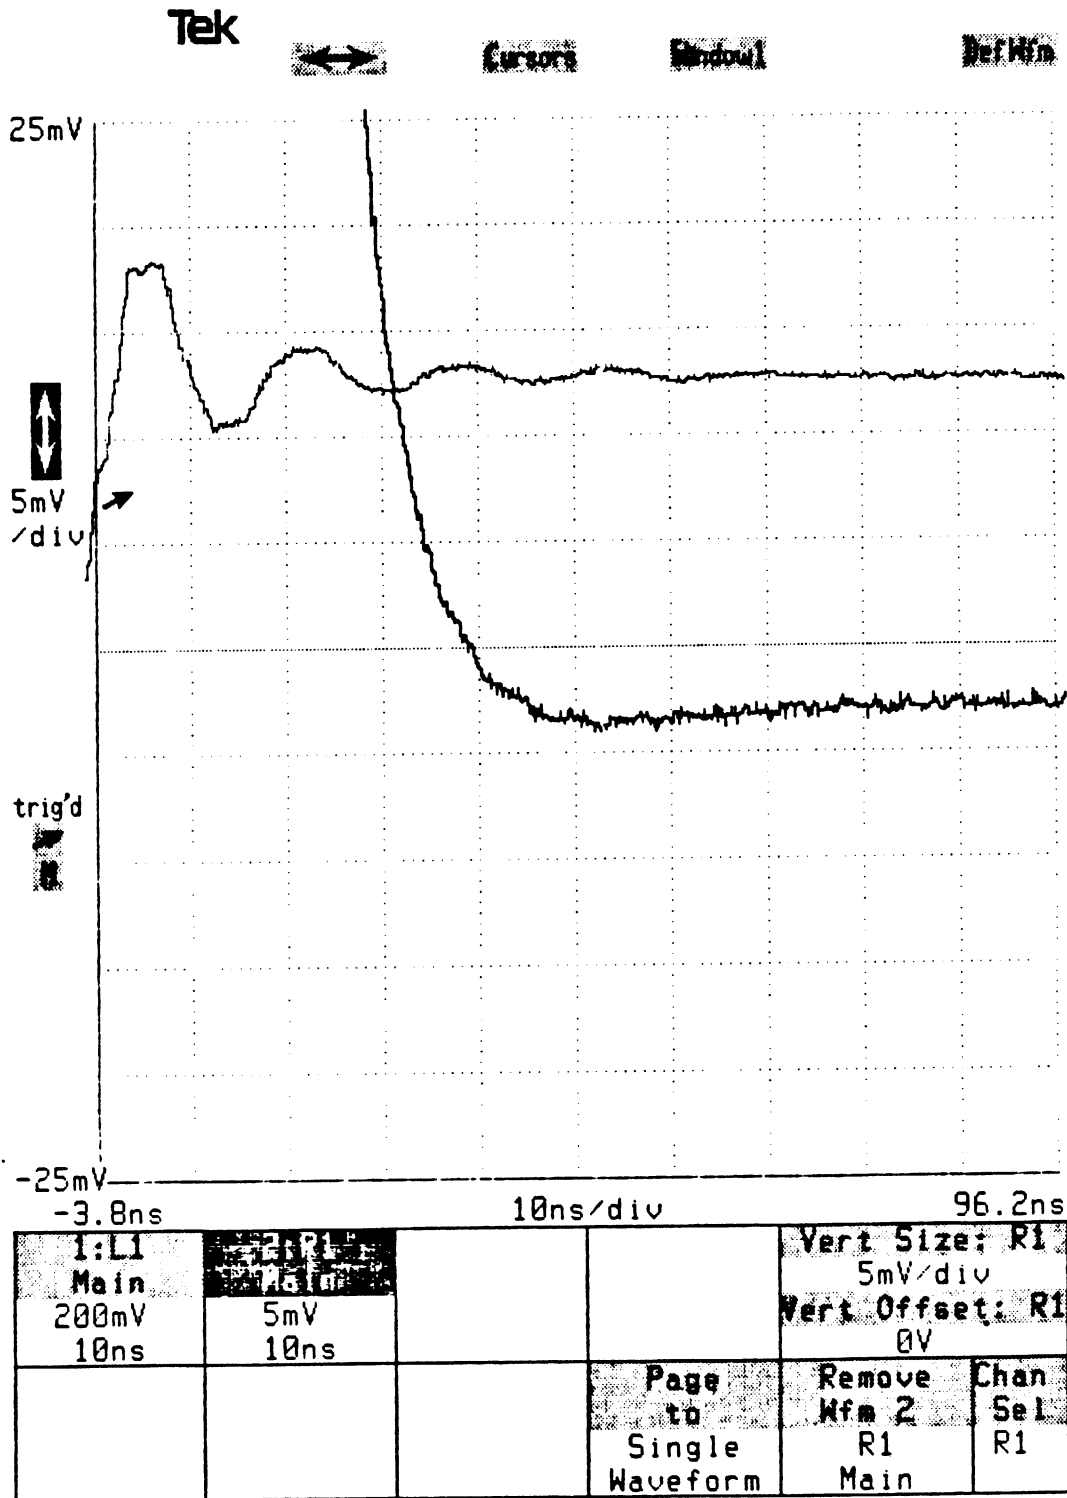

Figure 3 .
- n. **CHECK**—that amplitude of Signal Out at t= 40 ns is less than 20mV (see Figure 3).